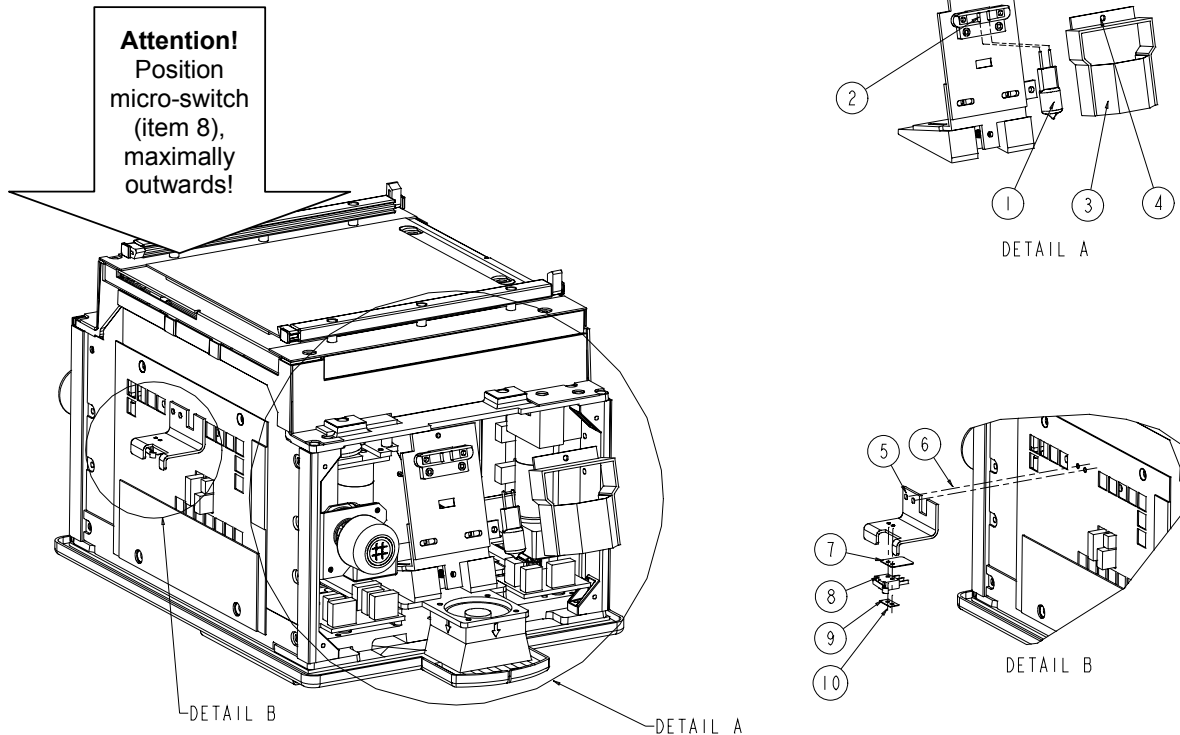

Figure 18: Replacement Lamp
3. Remove the protective cap of the lamp, item 3, Figure 18, by loosening the screw (item 4, Figure 18)
4. Remove the lamp (item 1, Figure 18) from the lamp-holder (item 2)
4. Remove the micro-switch (items 6 till 10, Figure 18 page 36).
5. Replace the micro-switch (item 8, Figure 18 page 36), reusing items 5, 6, 7, 9 and 10 and re-connect LAX5. Be sure the micro-switch is positioned maximally outwards before tightening the screws.
Maximum torque for tightening the screws items 6, Figure 18 page 36 = 11Ncm
4. Remove the micro-switch including the bracket (items 5 till 10, Figure 18 page 36).